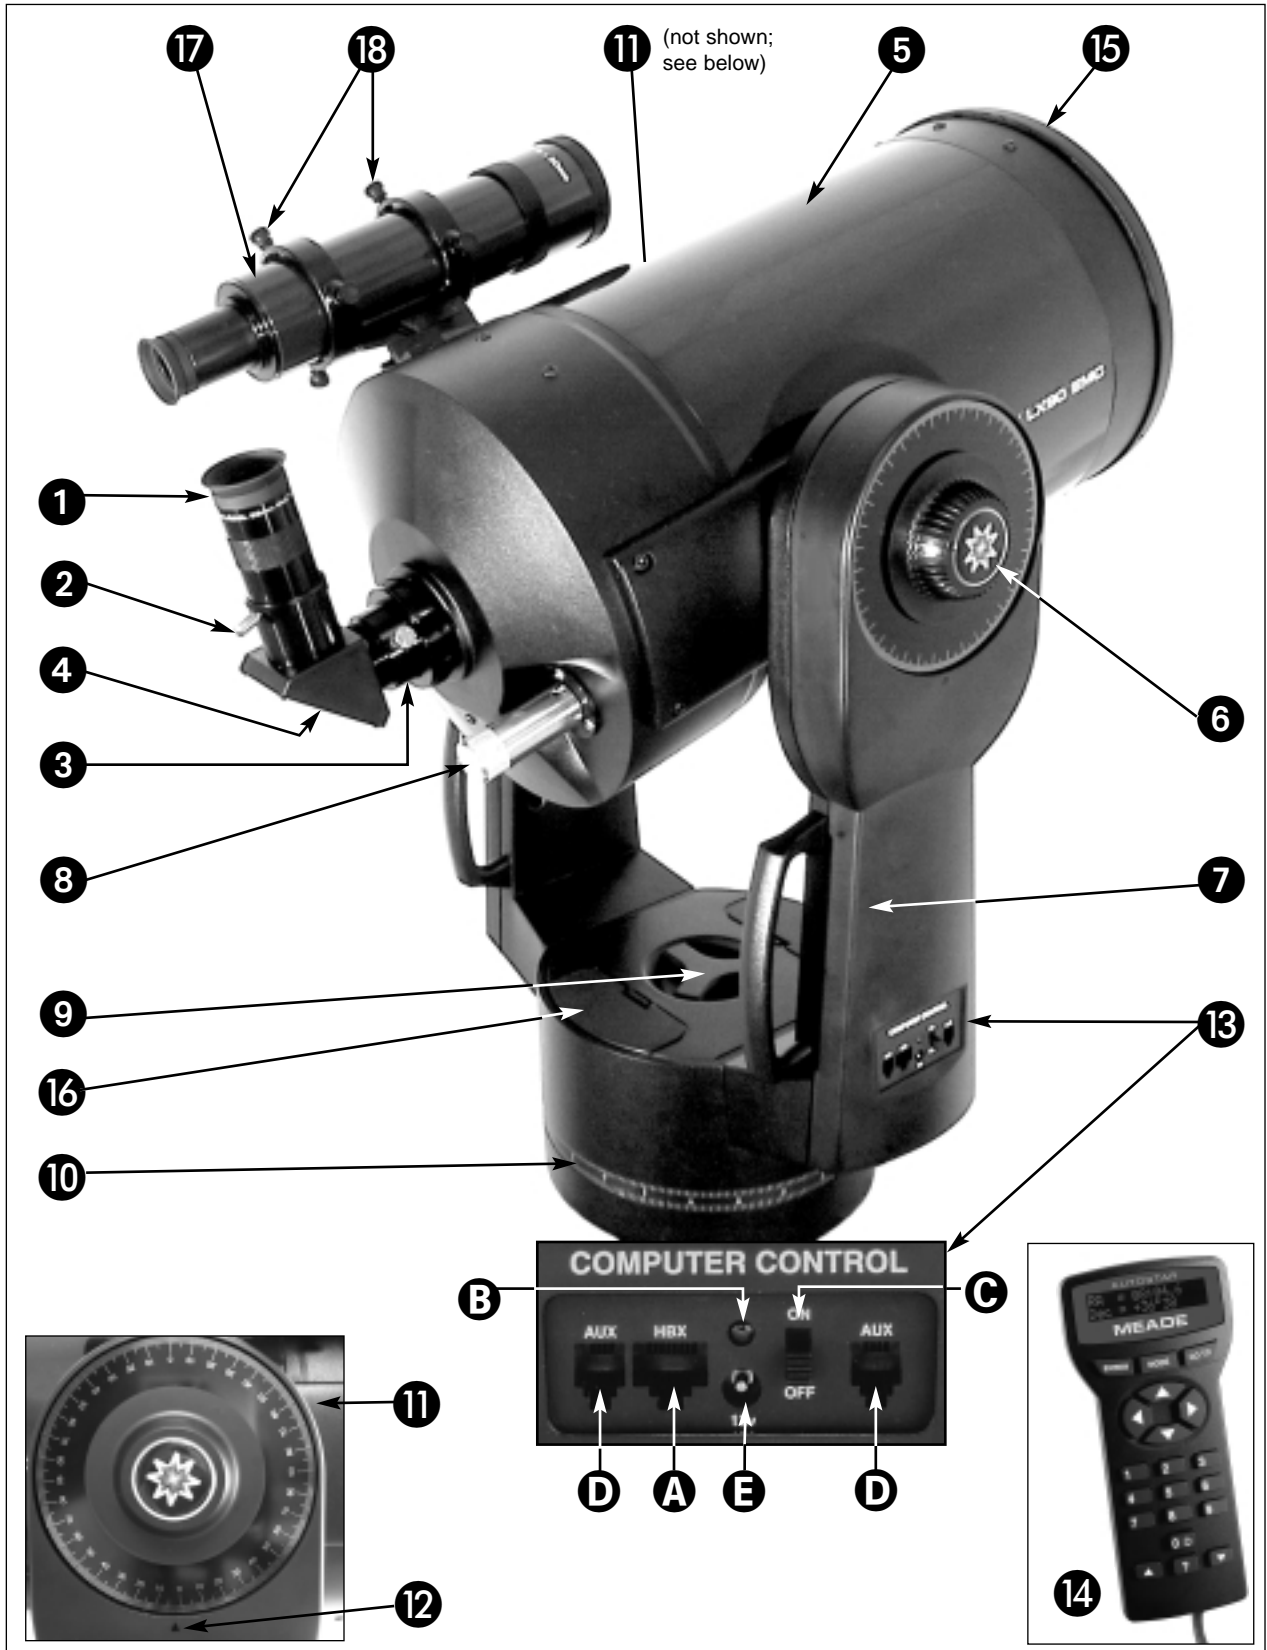
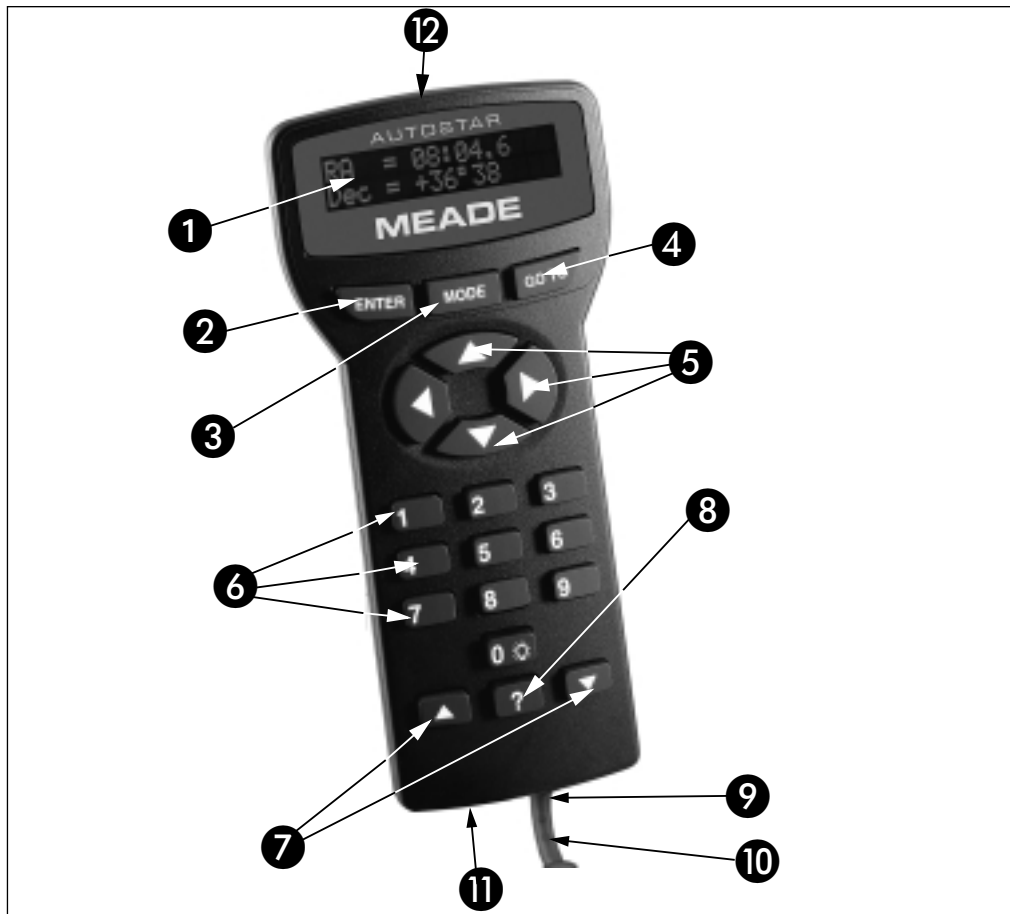

Fig. 1: The LX90 Telescope and Autostar Handbox.
Fig. 2: The LX90 Autostar Handbox.
10. Tighten, to a firm feel only, the Dec and R.A. locks (6 and 9, Fig. 1). See page 7 for more information. Remove the dust cover from the end of the telescope tube.
Sight along the side of the telescope's main tube to locate an object. Use the telescope's focus knob (8, Fig. 1) to bring the object into focus. Practice using the Autostar's Arrow keys to center an object in the telescope's field of view.
- ❶ **Eyepiece** - Place the Super Plössl 26mm eyepiece into the eyepiece holder or 90° diagonal prism (4, Fig. 1) and tighten in place with the thumbscrews. The eyepiece magnifies the image collected in the optical tube.
- ❷ **Eyepiece Holder Thumbscrew** - Tightens the eyepiece in place. Tighten to a firm feel only.
- ❸ **Eyepiece Holder** - Holds the eyepiece in place
- ❹ **Diagonal Prism** - provides a more comfortable right angle viewing position. Slide the diagonal prism directly into the eyepiece holder (3, Fig. 1)
- ❺ **Optical Tube** - The main optical component that gathers the light from distant objects and brings this light to a focus for examination through the eyepiece.
- ❻ **Dec Lock** - Controls the manual vertical movement of the telescope. Turning the Dec lock counterclockwise unlocks the telescope enabling it to be freely rotated by hand about the vertical axis. Turning the Dec lock clockwise (to a firm feel only) prevents the telescope from being moved manually, but engages the vertical motor drive for Autostar operation.
***NOTE:** The Dec lock knob is a knurled knob located on the fork arm to the right of the focus knob (8, Fig. 1).*
***CAUTION:** When loosening the Dec lock, be sure to support the optical tube (5, Fig. 1). The weight of the tube could cause the tube to swing through the fork arms suddenly.*
- ❼ **Fork Arms** - Hold the optical tube in place.
- ❽ **Focus Knob** - Moves the telescope's primary mirror in a finely-controlled motion to achieve precise image focus. The LX90 telescope can be focused on objects from a distance of about 25 ft. to infinity. Rotate the focus knob counterclockwise to focus on distant objects, and clockwise to focus on nearby objects.
- ❾ **R.A. Lock** - Controls the manual horizontal rotation of the telescope. Turning the R.A. lock counterclockwise unlocks the telescope, enabling it to be freely rotated by hand about the horizontal axis. Turning the R.A. lock clockwise prevents the telescope from being rotated manually, and engages the horizontal motor drive for Autostar operation.
- ❿ **Right Ascension (R.A.) Setting Circle** - See "APPENDIX A," page 45, for detailed information.
- A. Handbox (HBX) Port** - Plug the Autostar coil cord (**10, Fig. 2**) into this port.
- D. Auxiliary (AUX) Port (2)** - Provides connection for current and future Meade accessories, such as the Meade Accessory Port Module. See "OPTIONAL ACCESSORIES," page 39.
NOTE: *If MODE is pressed and held for two seconds or more, information about the telescope's status is then available using the Scroll keys (7, Fig. 2), such as:*
- 9 Coil Cord Port** - Plug one end of the Autostar coil cord into this port (**11, Fig. 2**) located at the bottom of the Autostar handbox.
- 10 Coil Cord** - Plug one end of the Autostar coil cord into the HBX port (**13A, Fig. 1**) of the computer control panel of the telescope.